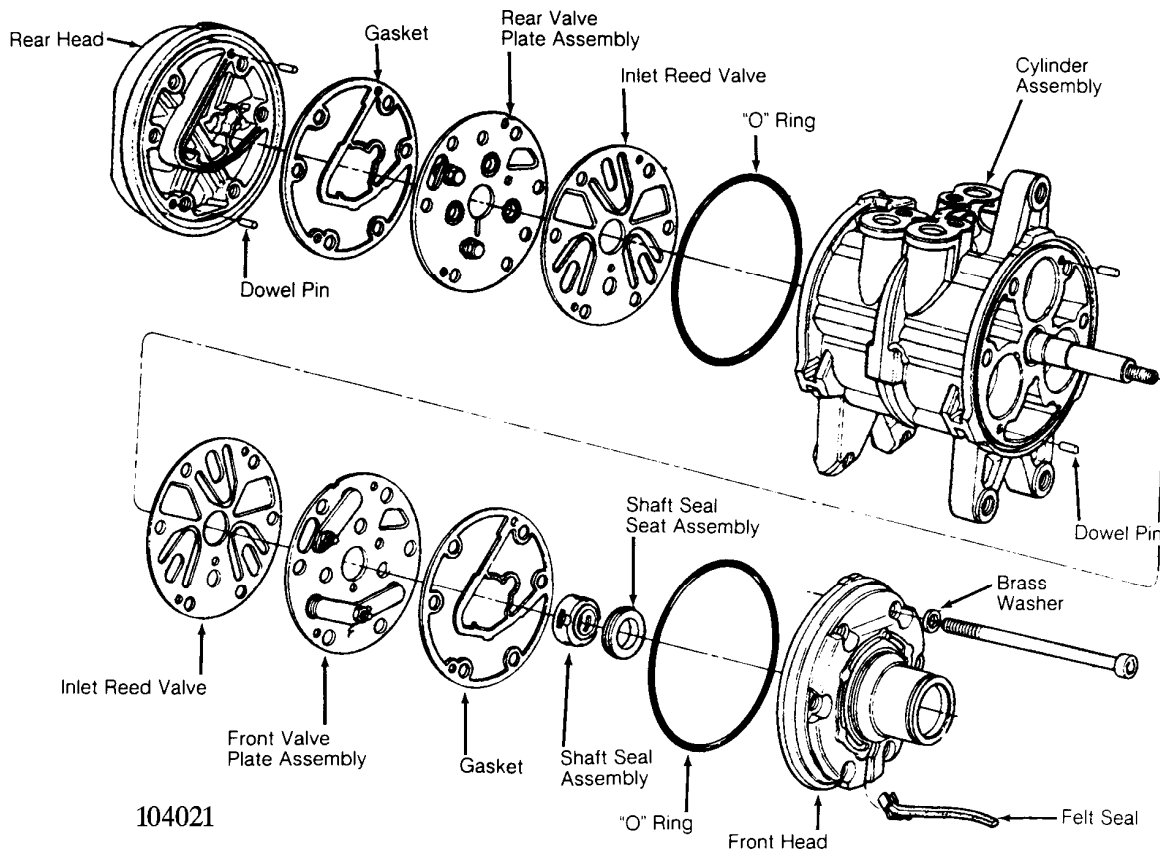

Fig. 1: Exploded View of Chrysler, Ford & Nippondenso 6-Cyl Compressors
- 3. Using Key Remover (T81P-19623-NH), remove key from compressor shaft. Remove front head-to-compressor retaining bolts. Remove front head. Front valve plate assembly, inlet reed valve and shaft seal assembly come off with front head. See Fig. 1 .